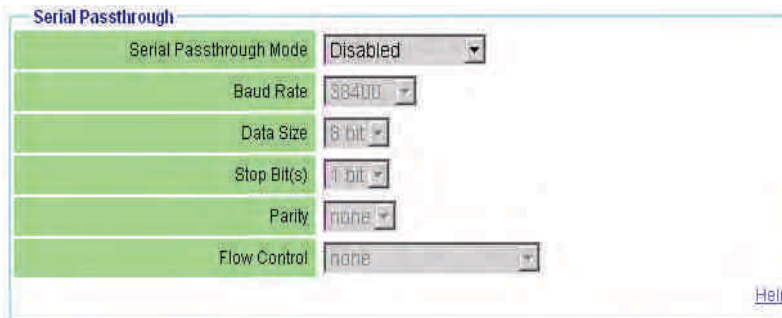

Figure 4.5: Serial Settings Page: Serial Parameters
1. Select Serial Settings from the Transmitter Menu, located on the left side of the web page. Figure 4.5 on page 46 illustrates these settings.